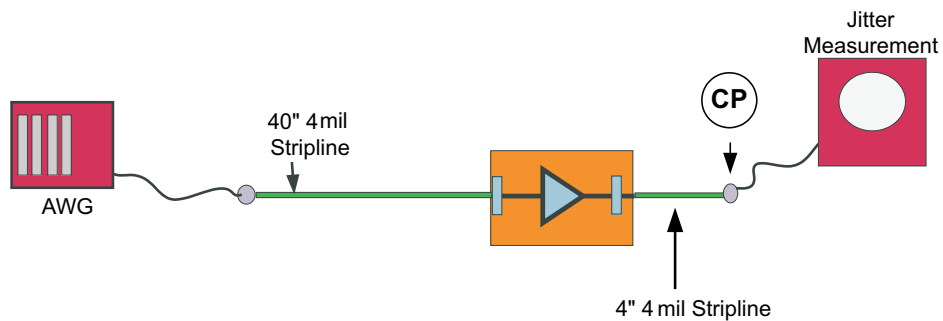

Figure 6. Jitter Measurement Test Condition
(1) $T_J = (14.1 \times RJ_{SD} + DJ)$ where RJ_{SD} is one standard deviation value of RJ Gaussian distribution. Jitter measurement is at the CP connector and includes jitter generated at the package connection on the printed circuit board, and at the board interconnect as shown in Figure 6.